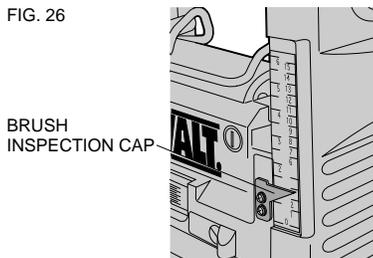

FIG. 27
- Figure 27** - Start the belt on the top pulley (A) as shown in Figure 1 with 3 grooves on the pulley.